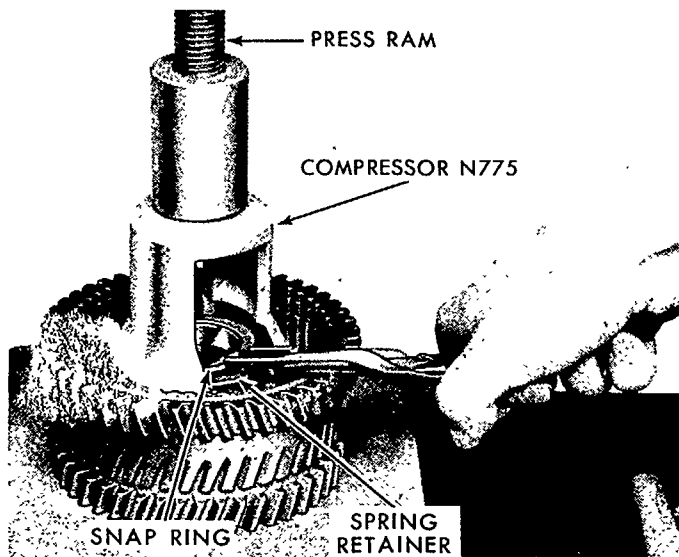

Figure 107
3. Compress the piston return spring in a press with the Compressor No. N-775, shown in Figure 107, then remove the snap ring. Guide the spring retainer while releasing the press to prevent the retainer from entering the snap ring groove.
Install the clutch release spring and retainer with Compressor No. N-775, as shown in Figure 107. Compress the spring in a press and install the snap ring.